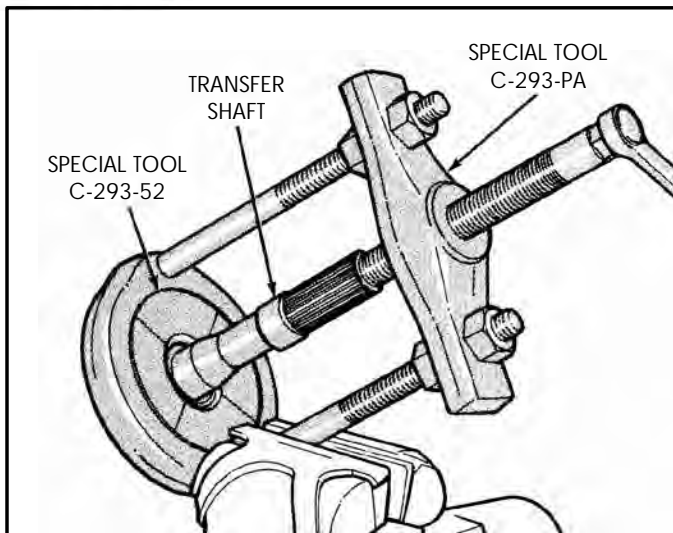

Figure 185
1. Remove transfer shaft bearing cone using the special tool, as shown in Figure 185.